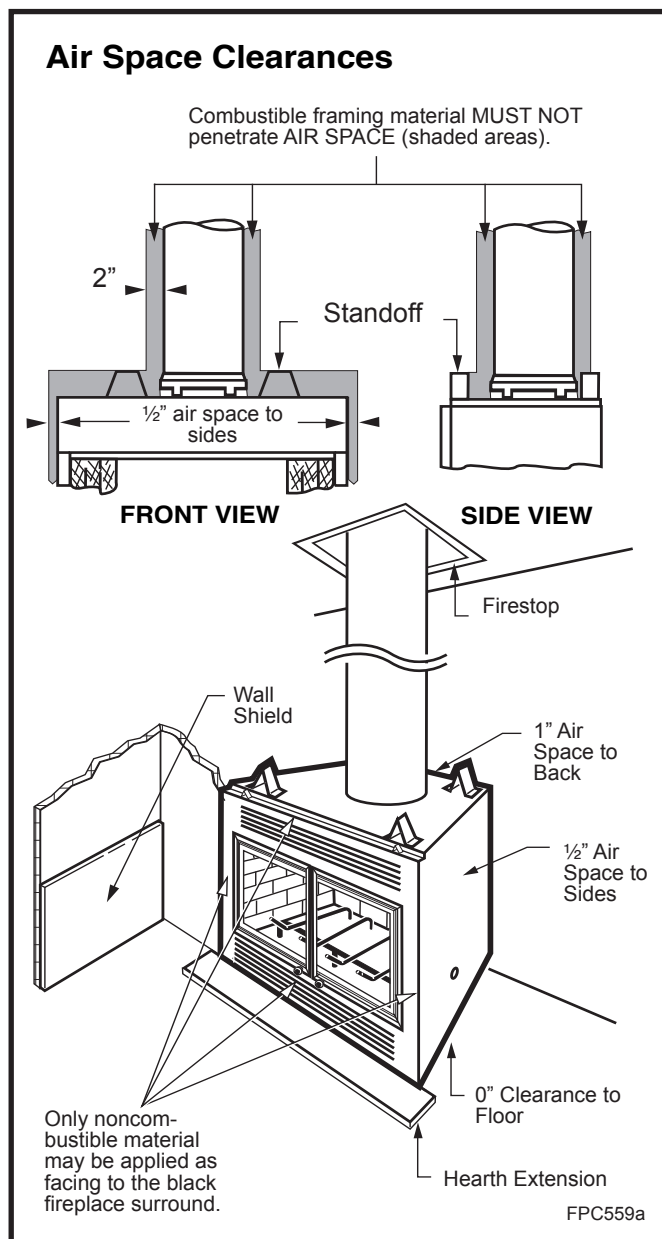

Fig. 18 Minimum clearances to combustibles.
**CAUTION:** All joints between the finished wall and the fireplace surround (top/sides) must be sealed with non-combustible material to prevent cold air leakage into the room. Only noncombustible material may be applied to the facing of the fireplace surround. (Black painted area) (Fig. 18)
Adjacent combustible side walls that are within minimum dimensions shown in Figure 24 of the fireplace opening must be protected with MHSC Wall Shield Model SP40 or a specifically built wall shield described in Figure 18.
The special wall shield design described in Figure 18 is an alternate method of adding protection to side walls and can be used in place of the SP40 with the same wall clearances specified for the SP40. Rt must = 1.85 minimum.